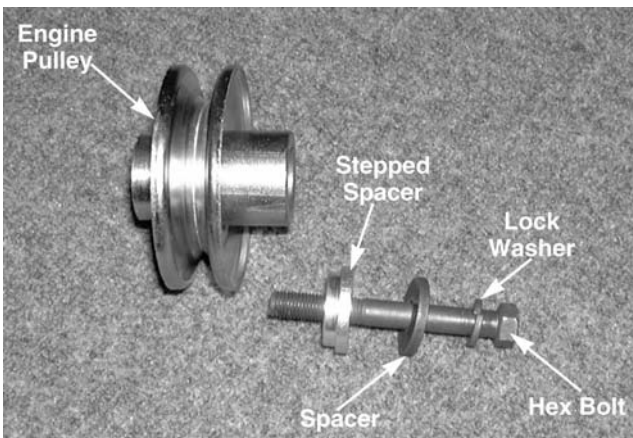

**Figure 9-43**
8. Grasp the electric PTO clutch and remove the hex bolt securing it to the crank shaft using a 5/8 socket. See Figure 9-43.